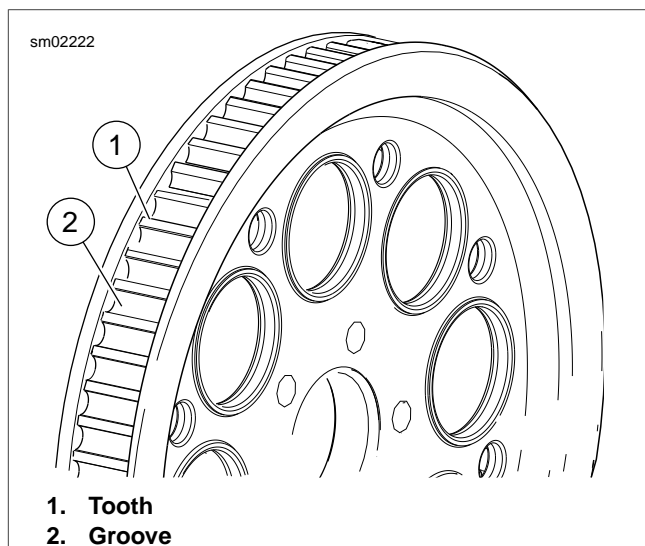

Figure 1-23. Rear Sprocket
1. See Figure 1-23. Inspect each tooth (1) of rear sprocket for:
2. To check if chrome plating has worn off, drag a scribe or sharp knife point across the bottom of a groove (2) (between two teeth) with medium pressure.